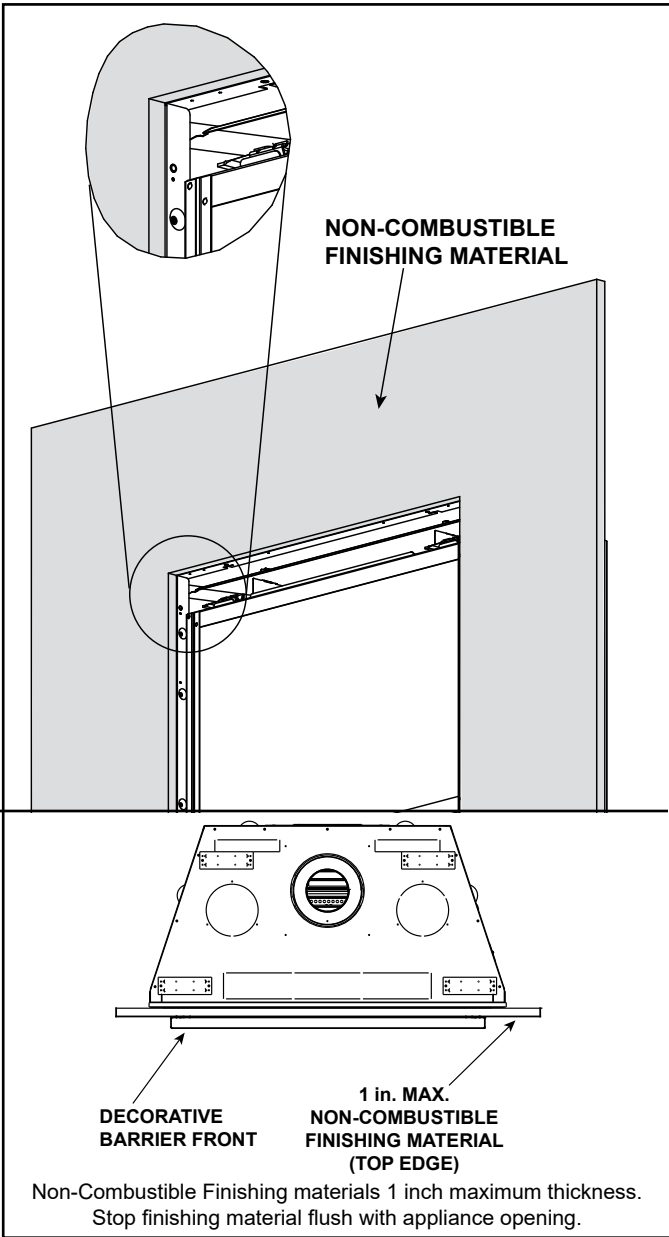

Figure 10.14 Non-Combustible Finishing Material 1 Inch Thick or Less - Overlap Fit Fronts
- A. Finish material 1 inch thick or less: Use with Overlap fit fronts. Finishing strips not required. See Figure 10.14.